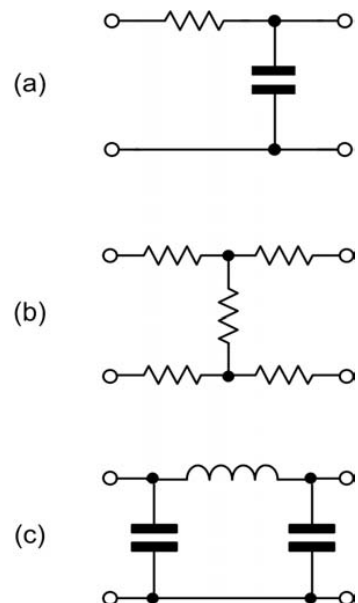

Fig.8.20. See Question 1
8.1. Identify each of the circuits shown in Fig.8.20